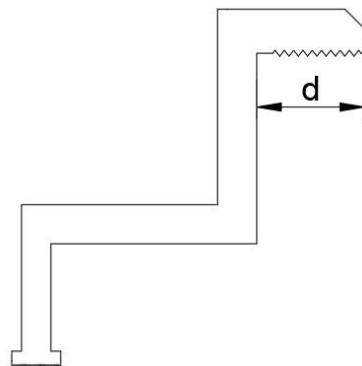

Fig. 8 Cross section diagram of fringe clamp
⑨ To prevent modules from coming off the fixed device after installation, it is suggested to choose fringe and mid clamps and make contact with the A side of the frame with groove patterns. Suggest to have 9 patterns with a space between 2 adjacent patterns of 1.2mm and a depth of 0.6mm, as shown in figure 8.